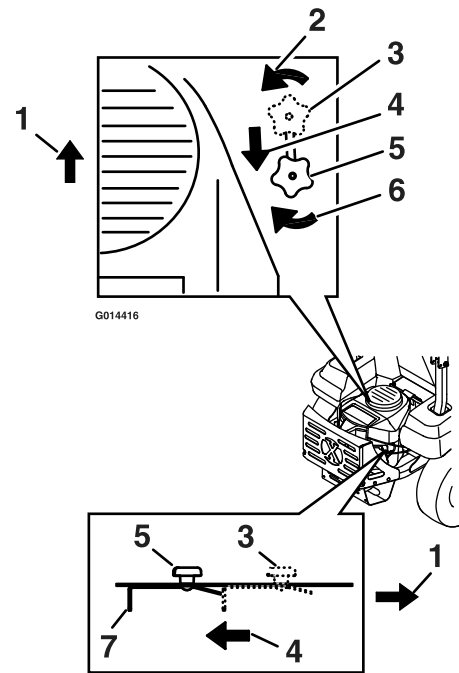

Figure 9
During normal operating conditions, the drive wheel release valves are positioned horizontally. If the machine has to be pushed by hand, the valves must be in the “released” position (see Figure 9).
To release the drive system (see item 1 in Figure 9), loosen the knob by turning counterclockwise. Then pull the release lever on the underside of machine towards the back of the machine and retighten the knob to hold the release lever back in the released state. Repeat this on each side of the machine.
To reset the drive system (see item 2 in Figure 9), loosen the knob by turning counterclockwise. Then push the release lever on the underside of machine towards the front of the machine and retighten the knob to hold the release lever in the operating state. Repeat this on each side of the machine.